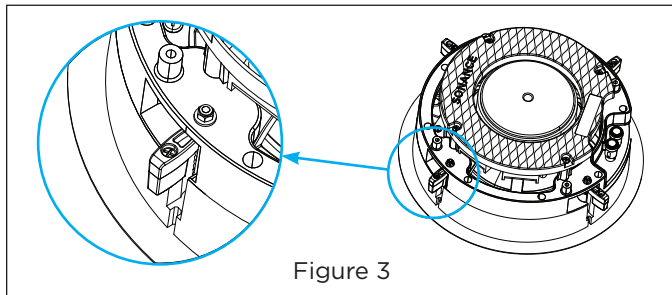
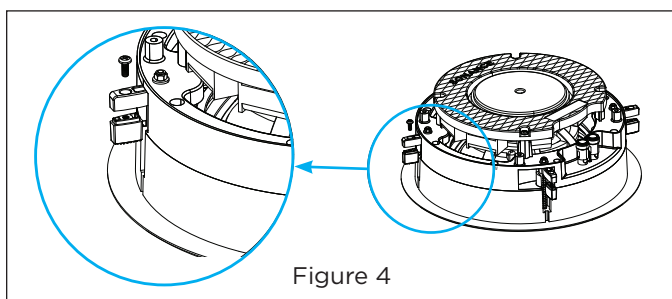

Figure 3
Figure 4
**NOTE: The Roto-Lock system can accommodate a wall material thickness of 1.52” (38.5mm) with the toggle foot cap removed the system can accommodate a wall material thickness of 1.97” (50mm). To remove the clamp feet, use a small screwdriver to gently release the locking levers (see Figure 3). Then remove the feet from the clamps (see Figure 4).**